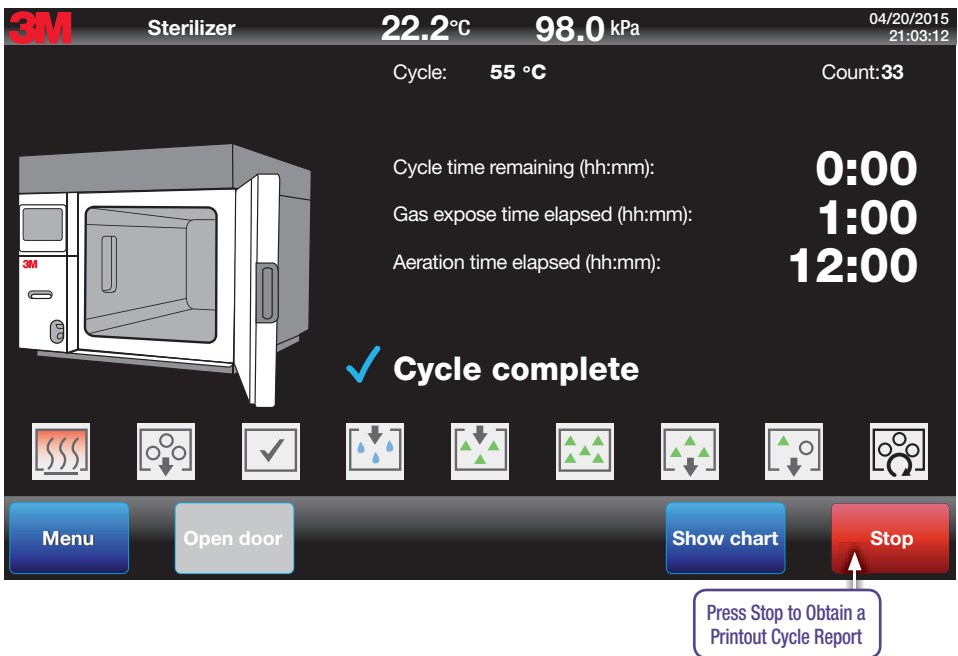

Figure 58.
5. Press the **Stop** button to generate a printout of the cycle report (Figure 58). The display will return to the main screen.